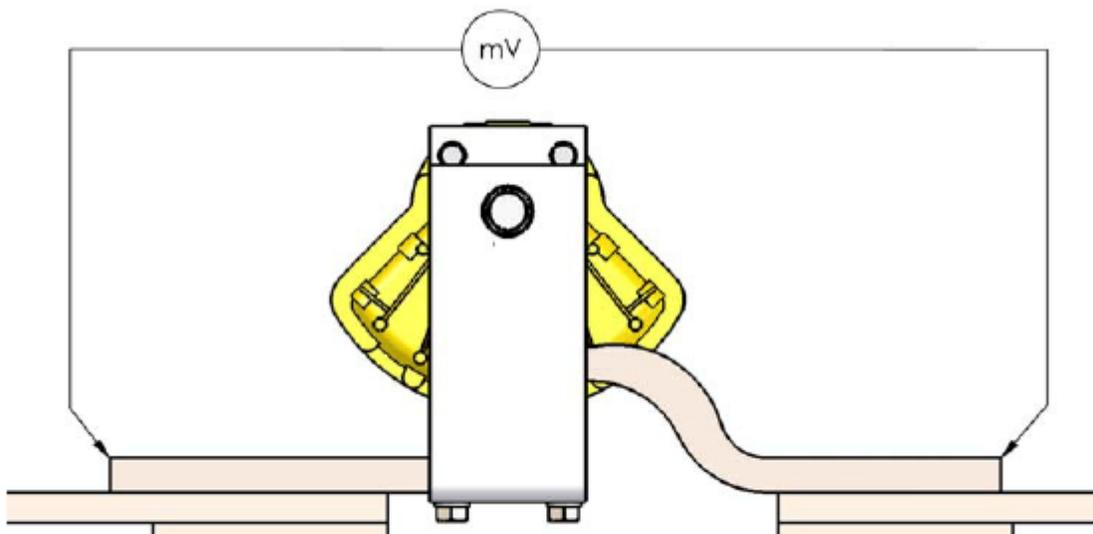

Figure 1.
1.1 A defective switch may be identified by a higher than expected millivolt (mV) drop across the extremes of the switch as shown in Figure 1.